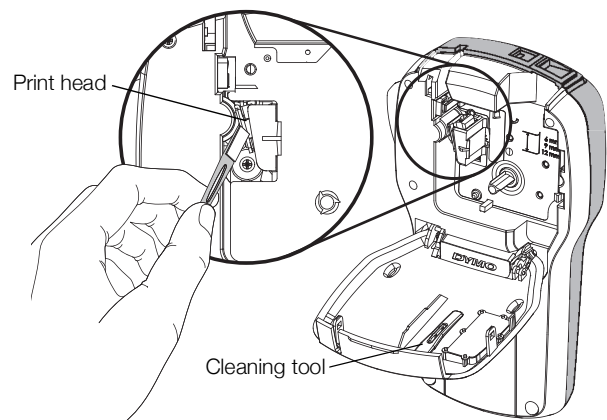

Figure 7
- 2 Remove the cleaning tool from inside the label compartment cover. See Figure 7.
- 3 Gently wipe the padded side of the tool across the print head. See Figure 7.